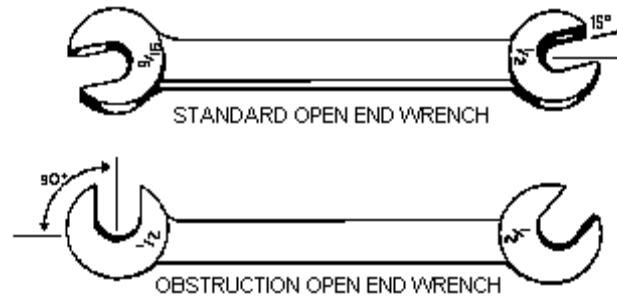

Figure 13, Open-End Wrench
- **Open End Wrench.** Open-end wrenches fit standard size nuts. They are lightweight, strong, and convenient for doing work in limited space. Because the jaws are set at an angle, usually 15° or 90°, it is easy to work in close places by turning the wrench over after each movement. The length varies according to the size of the opening. Some open-end wrenches are angular in construction. These are used in places where straight wrenches cannot be used. (See Figure 13).